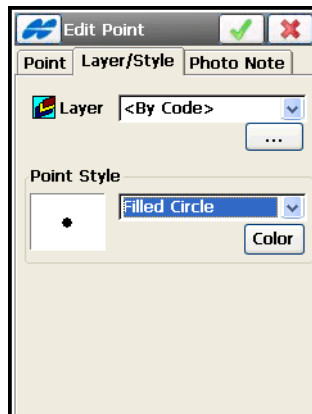

Figure 6-4. Set Layer and Point Style
6. On the *Layer/Style* tab (Figure 6-4), select the layer that the point will be stored to and the plotting properties to represent the point on the selected layer. (If needed, tap the **List**  button to edit layers.)